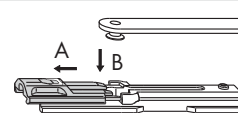

Figure 1
- A** Push back the anti-lift device of the stop (10) (Figure 1).
- B** Insert pan head rivet of the tilt only stay LM (8) in the provided guide (Figure 1).